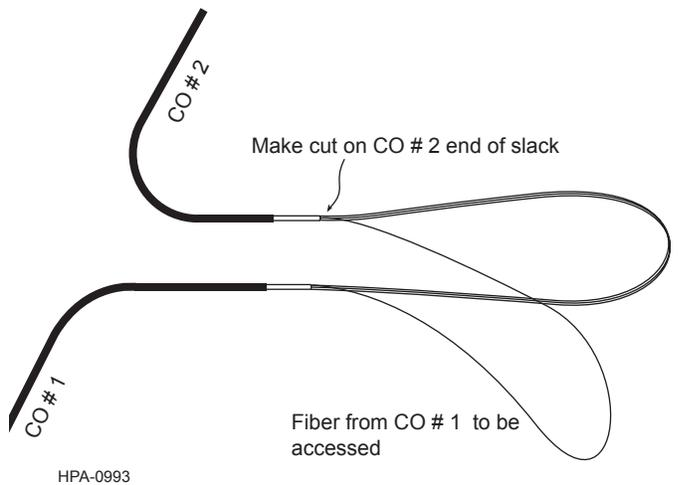

Figure 30
- Step 3:** Determine the end of the accessed fiber(s) to be cut by checking the system design splice plan and the feet/ meter marks printed on the cable sheath before cutting any fibers. As shown in Figure 30, typically you will cut the fiber ribbon at the end opposite the desired point of origin